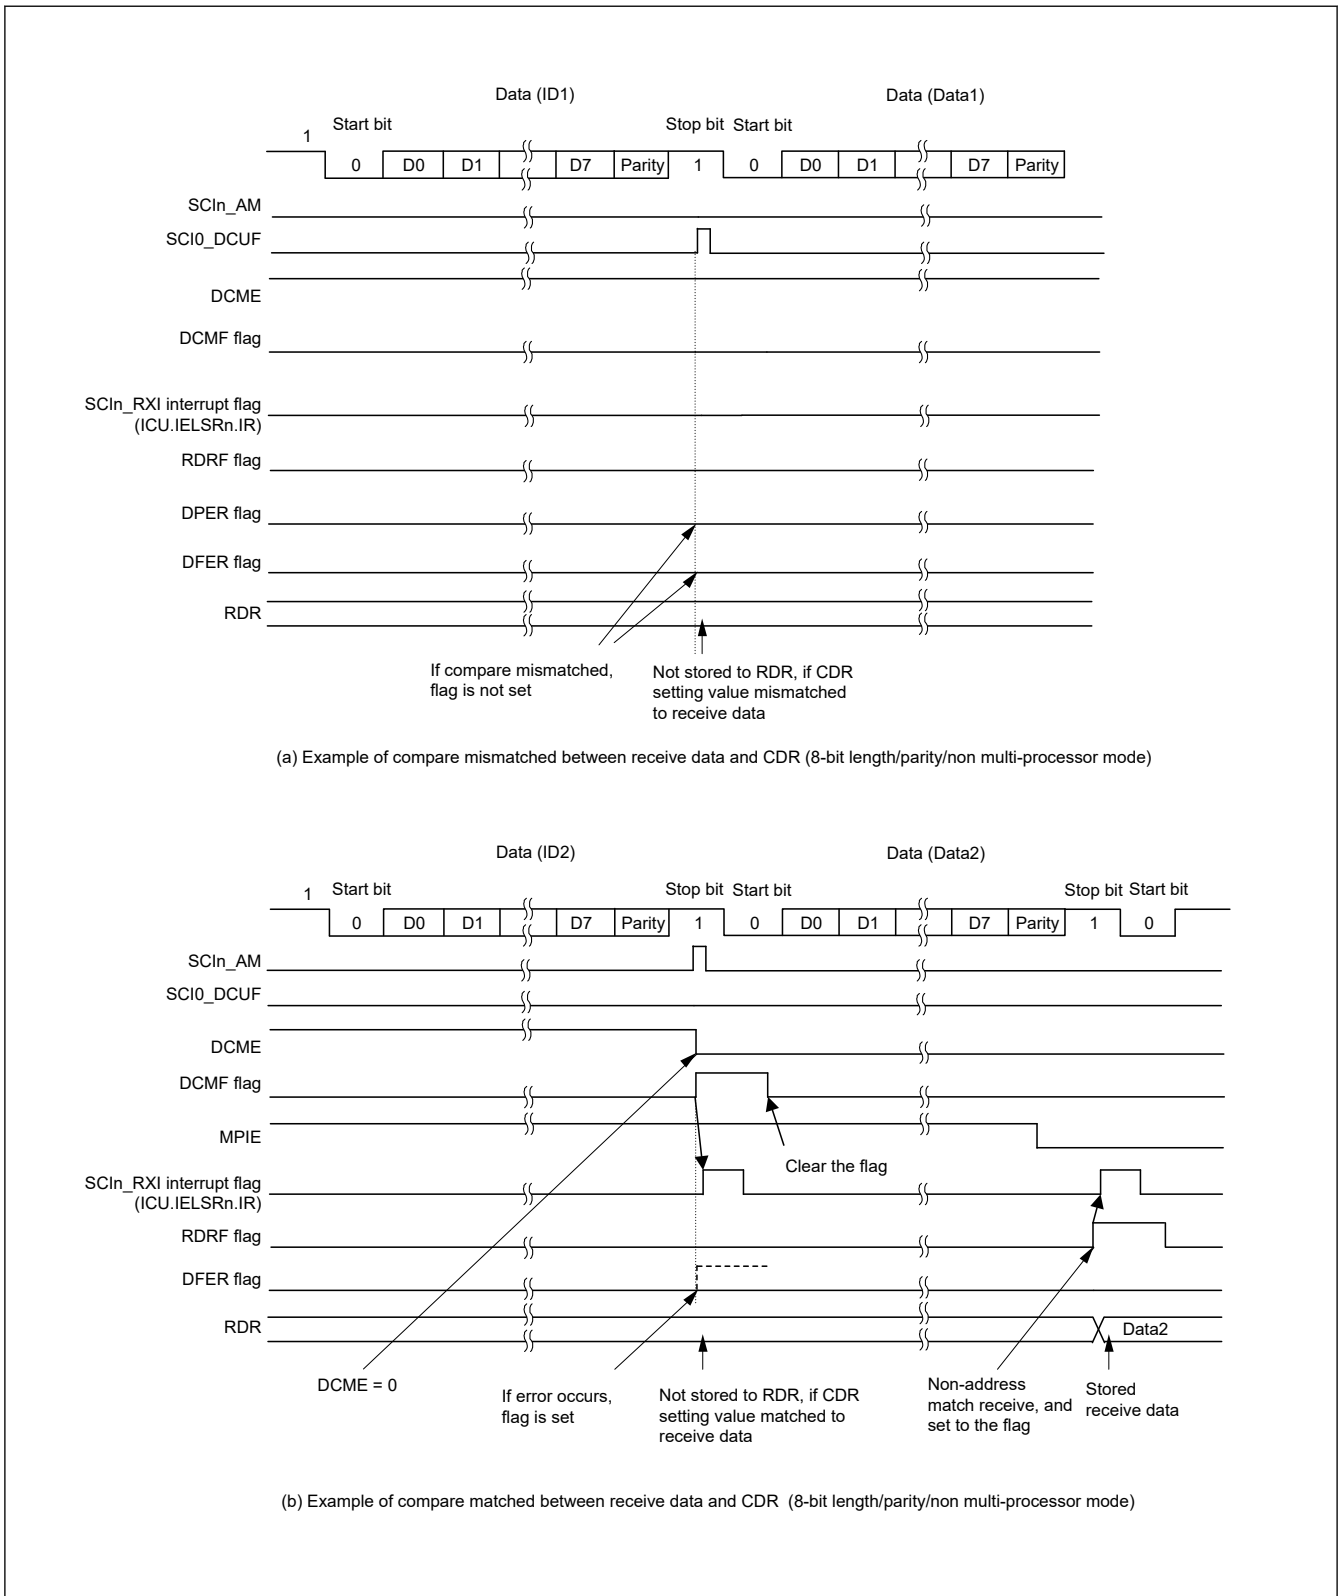
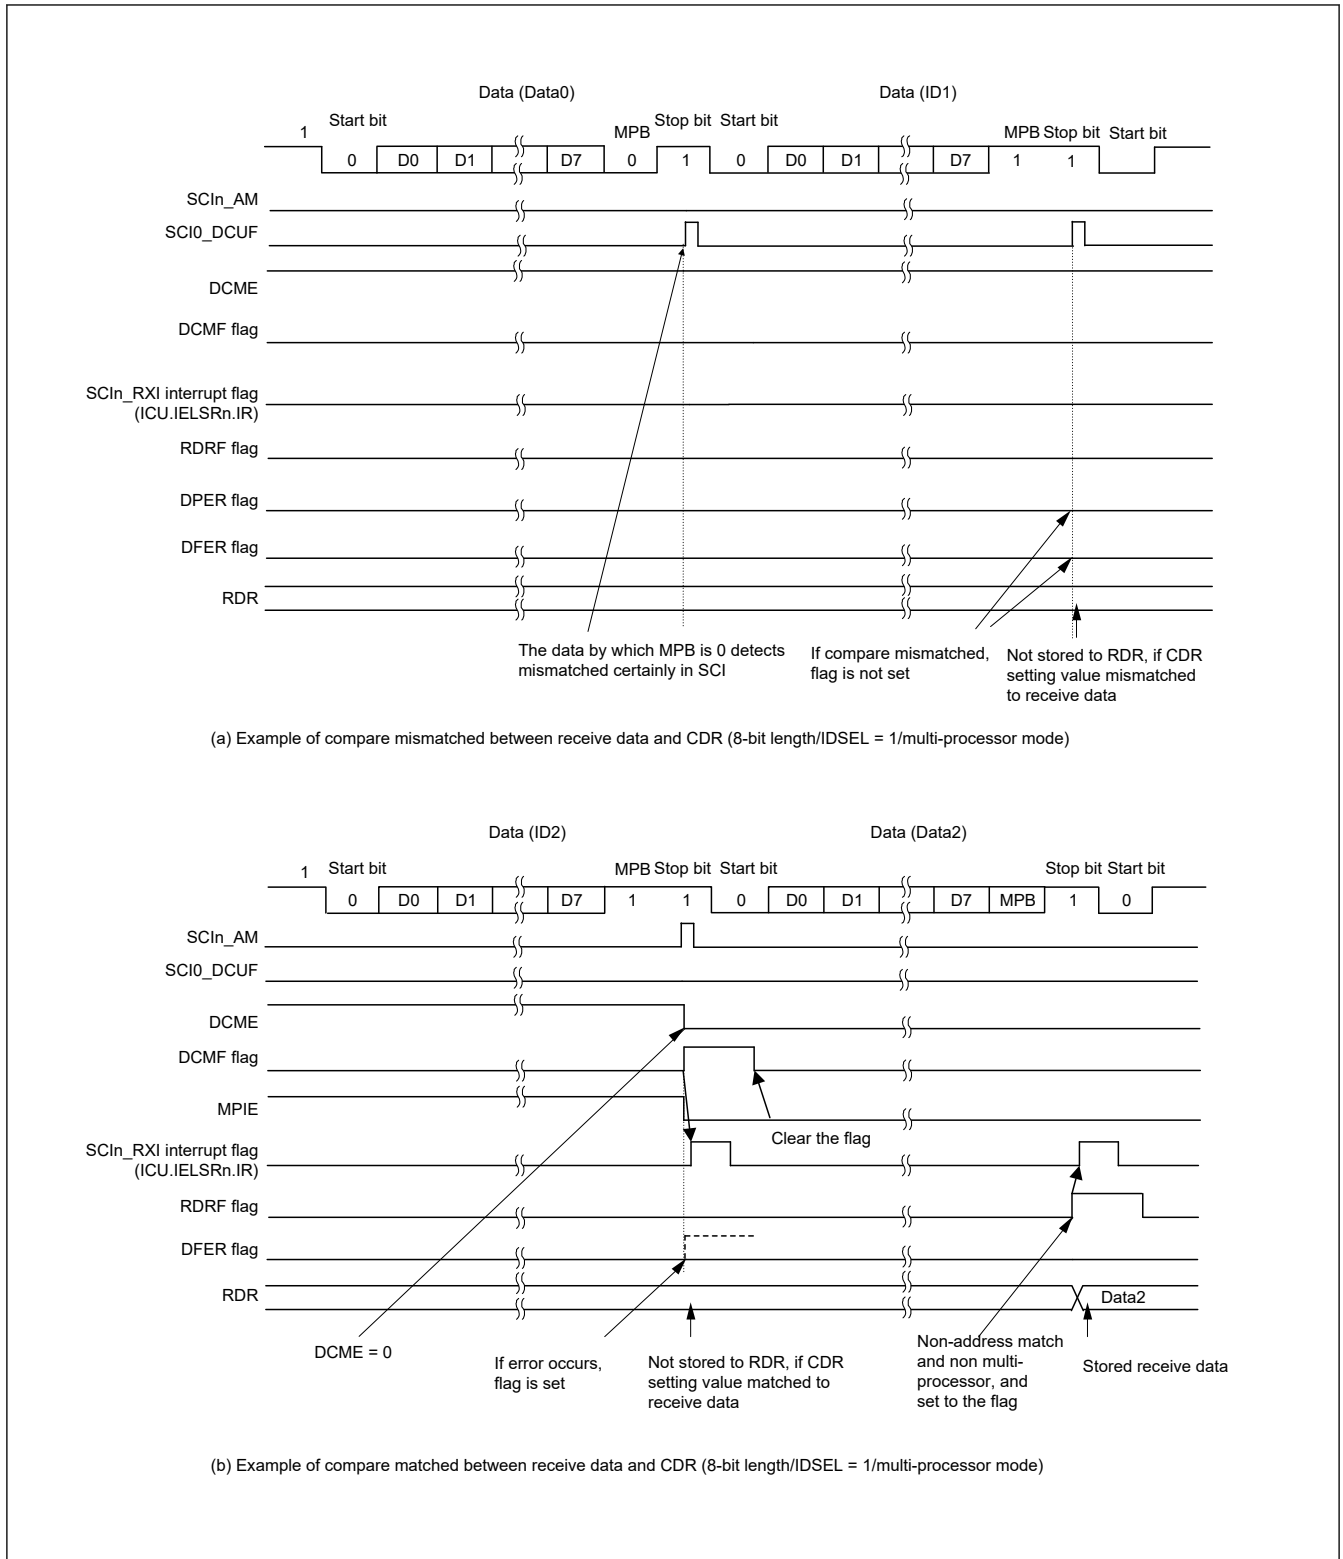

Figure 25.5 Example of address match (1) normal mode
Figure 25.6 Example of address match (2) multi-processor mode
Examples of the address match function are shown in Figure 25.5 and Figure 25.6.
6. If a framing or a parity error is detected (the DCCR.DFER flag or DCCR.DPER flag is 1) in the SCIn\_AM interrupt handling routine, set the DCCR.DFER and DCCR.DPER flags to 0 and set the DCCR.DCME bit to 1 to enable the address match function again. If neither a framing nor a parity error has been detected (the DCCR.DFER and DCCR.DPER flags are both 0), set the DCCR.DCMF flag to 0. See Figure 25.5.